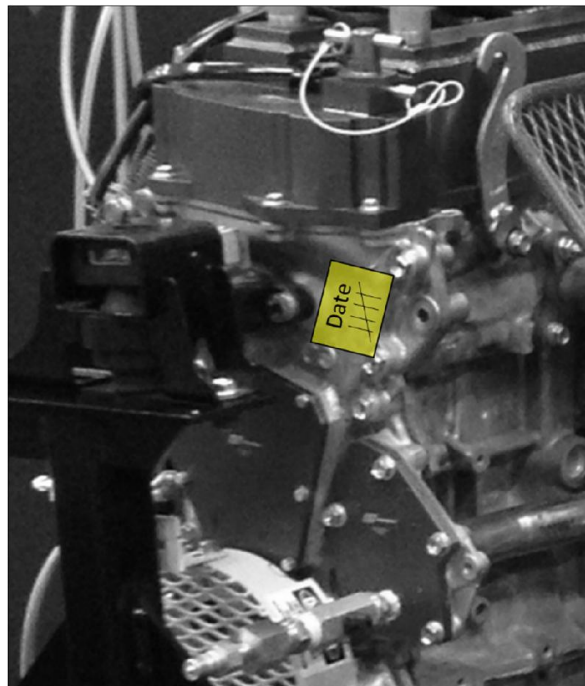

Figure 1 - Location for Strike Marks on OHT Front Cover
- 8.5. Add a strike mark to the upper exhaust-side of the OHT front cover to track its number of runs (as shown in Figure 1). Complete: